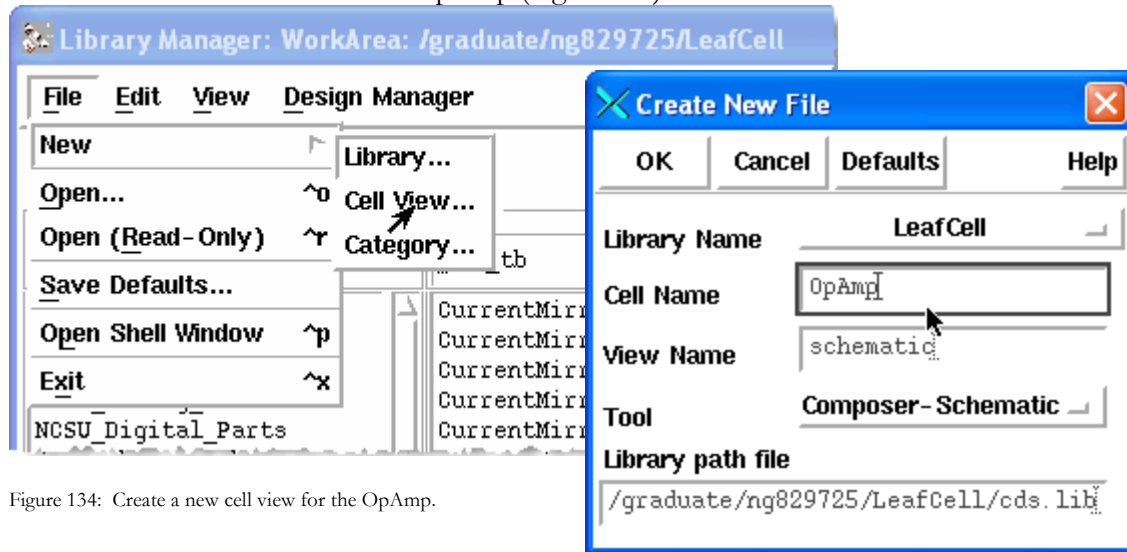

Figure 134: Create a new cell view for the OpAmp.
1. Create a new cell view for the OpAmp (Figure 134)